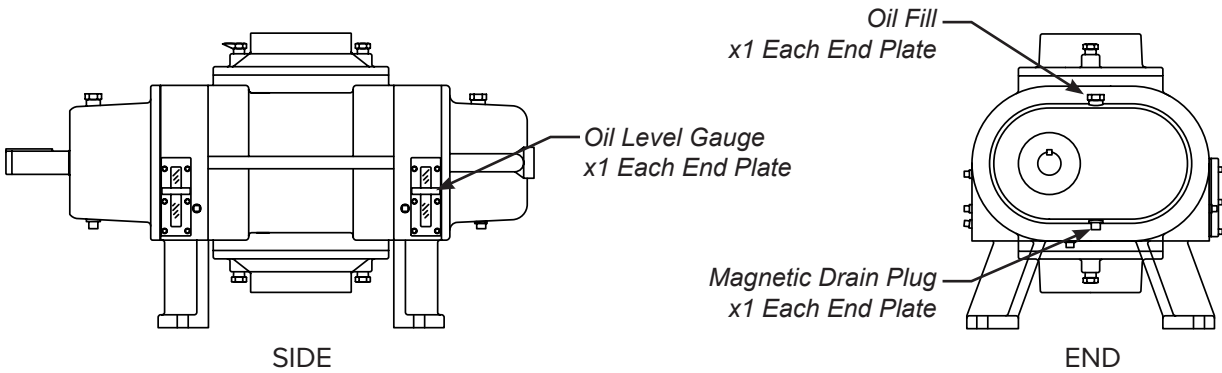

FIGURE 8
- 2. Pour oil through fill hole slowly until oil appears in oil sight glass. Slowly bring oil up to proper level (see Figure 8).